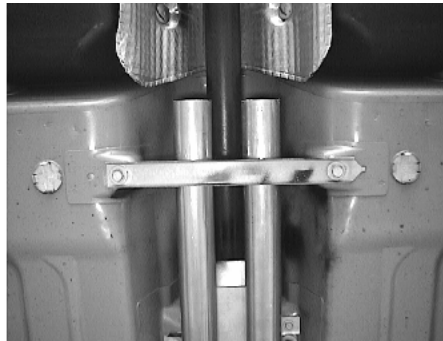

Figure 4
3. Using the original hardware, install the support bracket shown in figure 4.